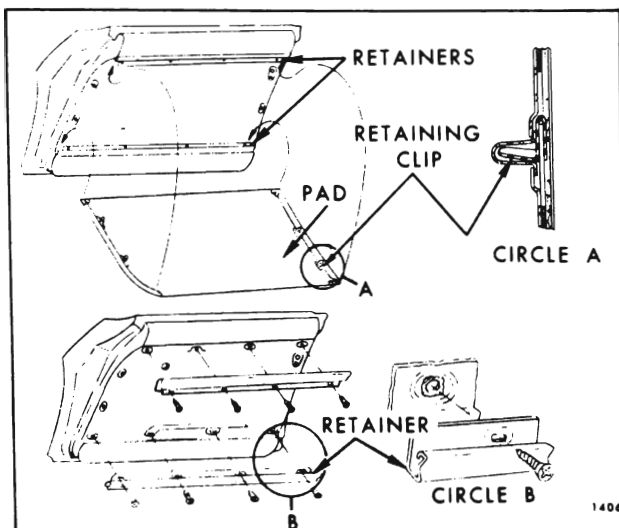

Fig. 14-16—Door Trim Pad Removal
2. Carefully insert tool J-6335, or a suitable flat-bladed tool, between door trim assembly and door inner panel at retaining clip location and disengage clips from retaining plugs (See Fig. 14-16).
5. If plastic retaining plugs are loose and will not remain engaged in door inner panel, install a 1/2 x 3/4" piece of cloth-backed waterproof body tape over retaining plug hole and door inner panel (See Fig. 14-16). Make two slits in tape to form an "X" pattern. Check retainer for a snug fit and, if still loose, repeat